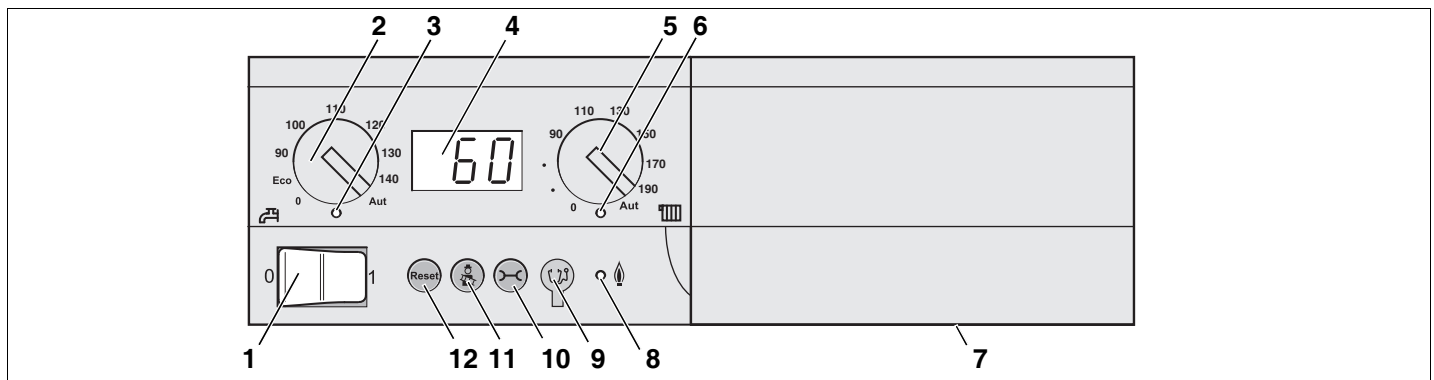

fig. 2 Basic Controller Logamatic BC10
The basic controller BC10 (see fig. 2) is located on the left side in the drawer.
The menu structure of the boiler can be viewed on the BC10 using the "Reset" (Reset), "Chimney sweep" (Chimney sweep) and "Service" (Service) (see fig. 2, pos. 9, 10 and 11) buttons and the display indication (see fig. 2, pos. 4).
A display value or code is shown on the display of the BC 10 basic controller (see page 8, fig. 2).
If the display code is a fault code, this fault code either flashes (locked fault code) in the display or it is shown permanently (blocking fault code). A boiler reset is only necessary with a locking fault code (flashing) (see 8, fig. 2). The cause of the fault must be remedied first. The cause has to be remedied and the boiler resumes regular operation.